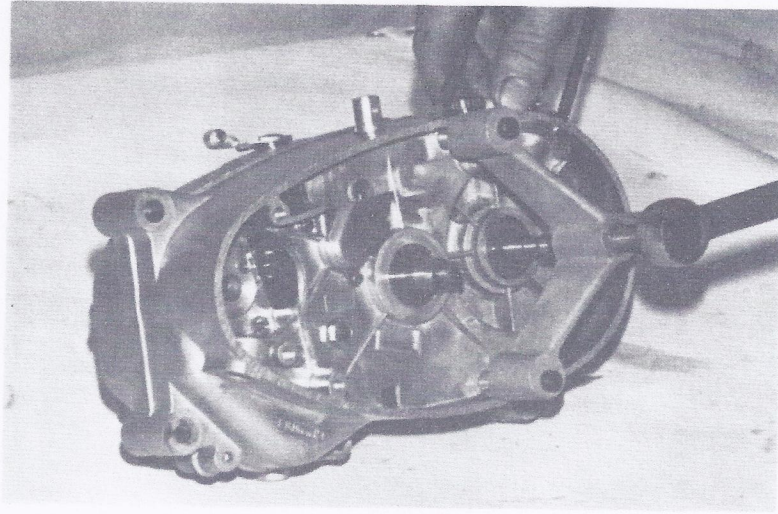

FIGURE 12 - How to separate the two half crankcases,
- 18) Using the special "crankshaft extractor tool" U42-1, that is attached to the clutch side half crankcase (see figure 12), screw the central bolt with a 17 mm. wrench and, at the same time, tap with a rubber hammer on the gear shaft until the two half crankcases are fully parted. Then, remove the central washer and the complete primary shaft.